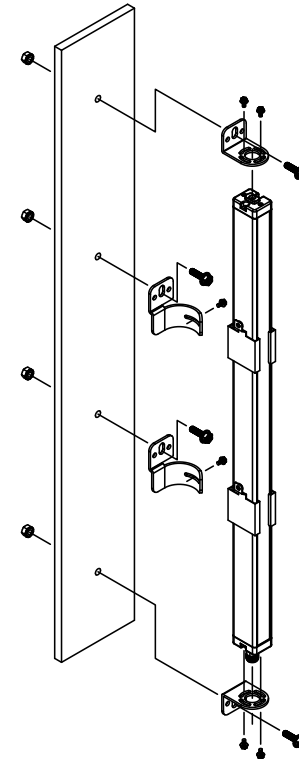

Figure 11. Emitter and Receiver Center Mounting Brackets
2. Compress the foam spacer and slide the clamp along the length of the sensor housing to align the clamp with the center mounting bracket as shown in Figure 11 on page 20. Three separate mounting holes are provided on the clamp to allow for all possible mounting configurations.